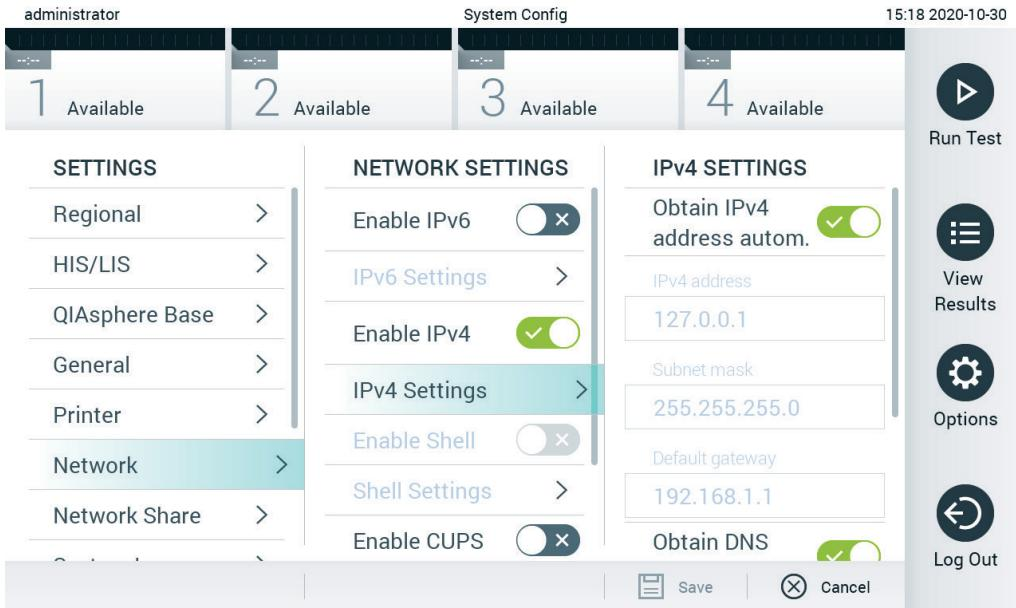

Figure 74. Configuring the network settings.
5. Select **Network** from the settings list in the left column (Figure 74, next page).